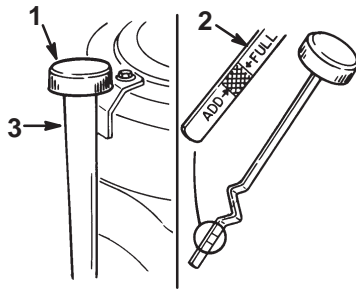

Figure 28
- Clean around the oil dipstick (Fig. 28) so dirt cannot fall into the filler hole and damage the engine.
- Unscrew the oil dipstick and wipe the metal end clean (Fig. 28).
- Slide the oil dipstick fully into the filler tube; **do not** thread it onto the tube (Fig. 28).
- Pull the dipstick out and look at the metal end (Fig. 28).
- If oil level is low, slowly pour only enough oil into the filler tube to raise the level to the Full mark (Fig. 28).
- Slowly pour approximately 80% of the specified amount of oil, refer to page 23, into the filler tube (Fig. 28).
- Slowly add additional oil to bring the level to the Full mark on the dipstick (Fig. 28).